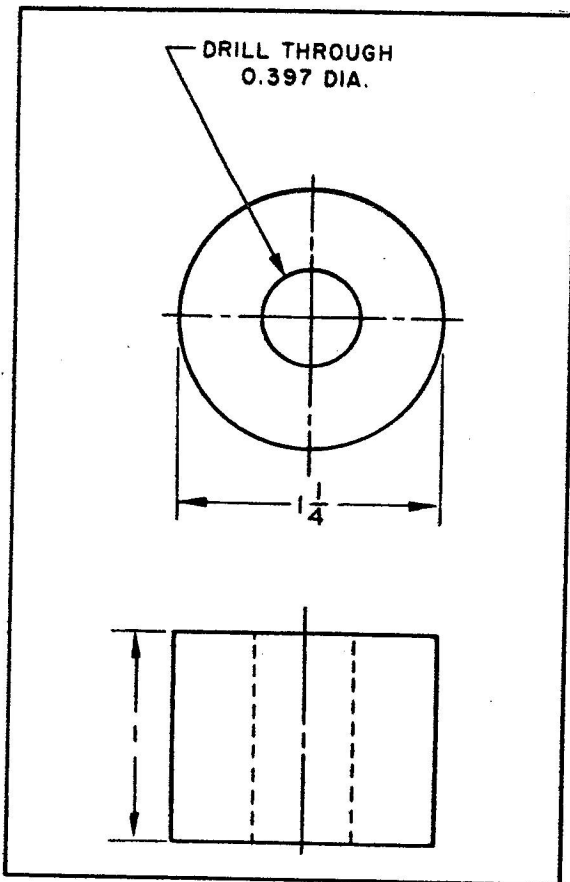
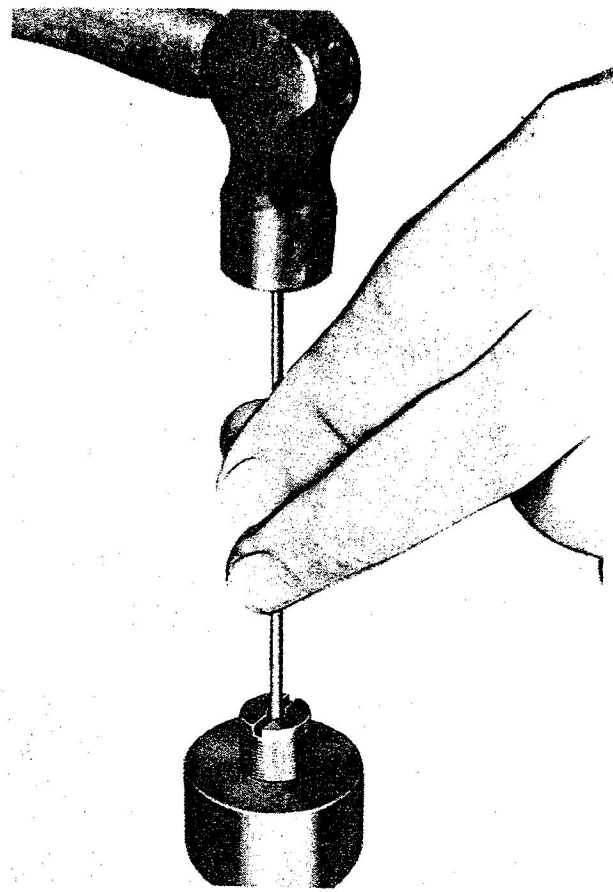

Figure 2-5. Fixture for Removing Contact Plug
Figure 2-6. Removing Contact Plug from Adjusting Screw
a. Mount adjusting screw assembly (7), previously removed, in fixture (figure 2-5) so that contact plug (9) fits inside hole. Insert a short piece of drill rod (3/64-inch in diameter) into hole in slot of adjusting screw (8). Gently tap contact plug (9) out of adjusting screw (8) with a hammer. (See figure 2-6.)
b. Remove in order, two screws (3), lock washers (4), washers (5), and washers (6). Remove adjusting screw bracket assembly (2), bushings (18), and insulator (19) from carbon pile housing (24).
c. Unscrew three screws (14 and 15) and remove three lock washers (13). Separate adjusting screw plate (10) from adjusting screw bracket (17) and slide out adjusting screw spring (16). Nut (11) and lock washer (12) were removed previously.
d. Unscrew screws (22), remove clips (23), and slide carbon pile tube (21) out of carbon pile housing (24).
e. Unscrew remaining nut (25), and lift lock washer (26) and washer (27) from stud (52). Pull carbon pile housing (24) free from studs (52).
f. Lift armature assembly (28) out of magnet case assembly (38), and pull red lead, which is permanently attached to ferrule assembly (30), through hole in magnet case (51). Remove packing shim (37) from magnet case (51).
g. Mount armature assembly (28) on fixture (figure 2-5) so that contact plug (29) fits inside hole. Insert a short piece of drill rod (3/64-inch in diameter) into hole in armature and diaphragm assembly (36) and gently tap contact plug (29) out of ferrule assembly (30).